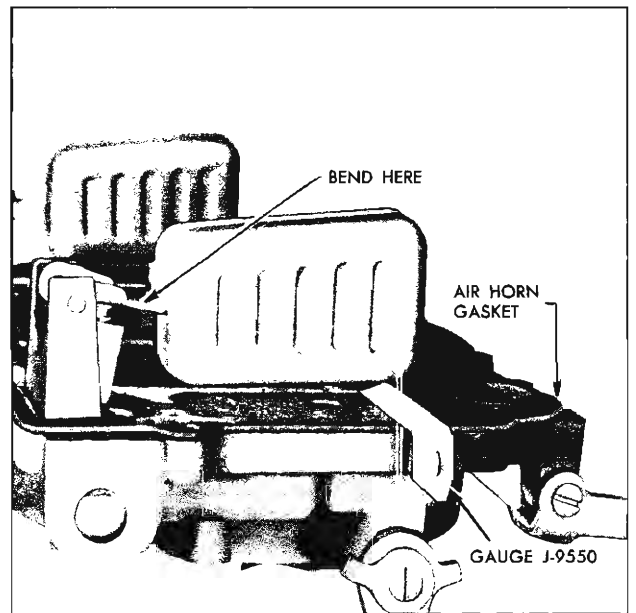

Fig. 74—Adjusting Float Level
- Adjust Float Level. With air horn inverted and air horn gasket in place, check clearance between each float (at outer end) and air horn gasket using Float Gauge J-9550 chain set ($\frac{7}{32}$ ") or a $\frac{7}{32}$ " drill (fig. 74). To adjust, bend float lever. After any adjustment, recheck float alignment.